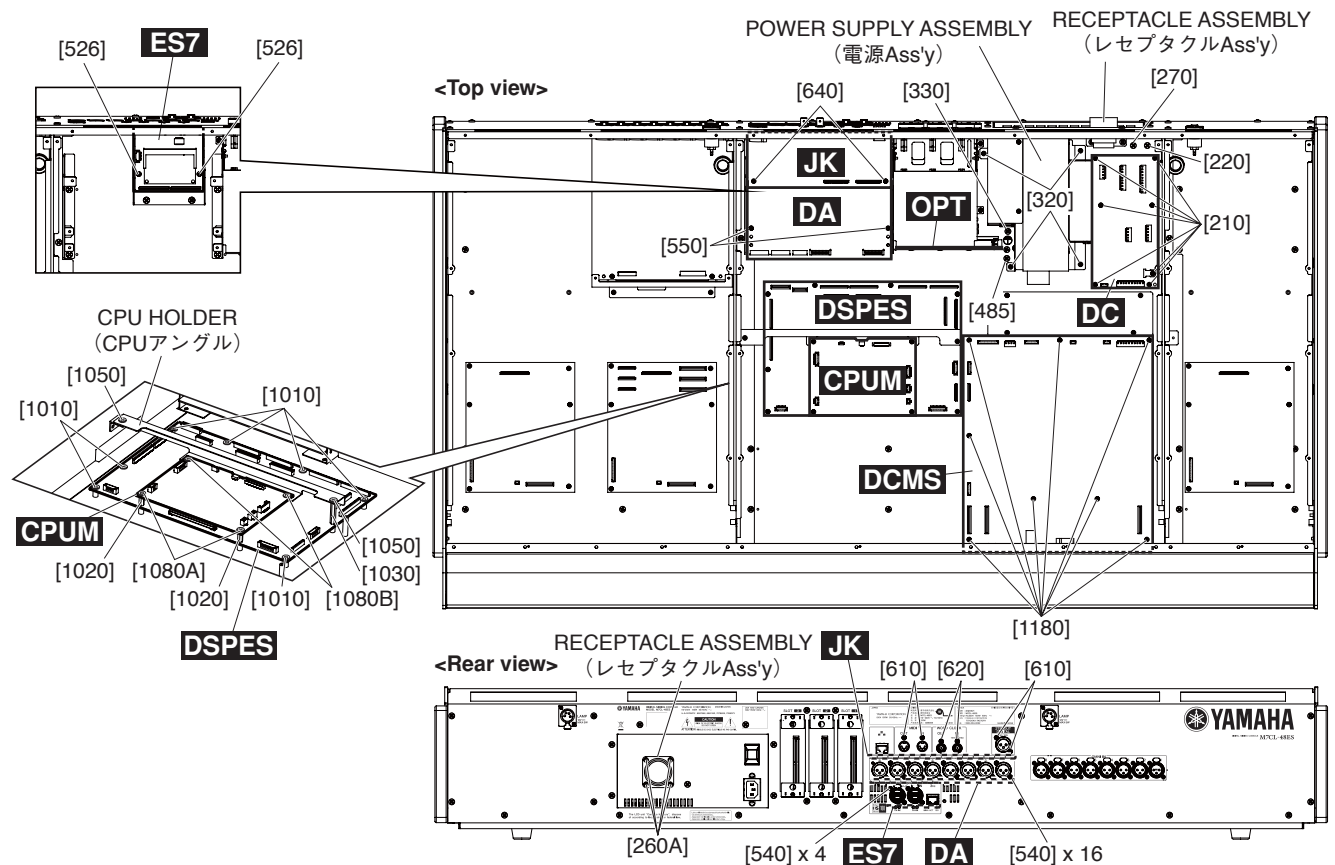
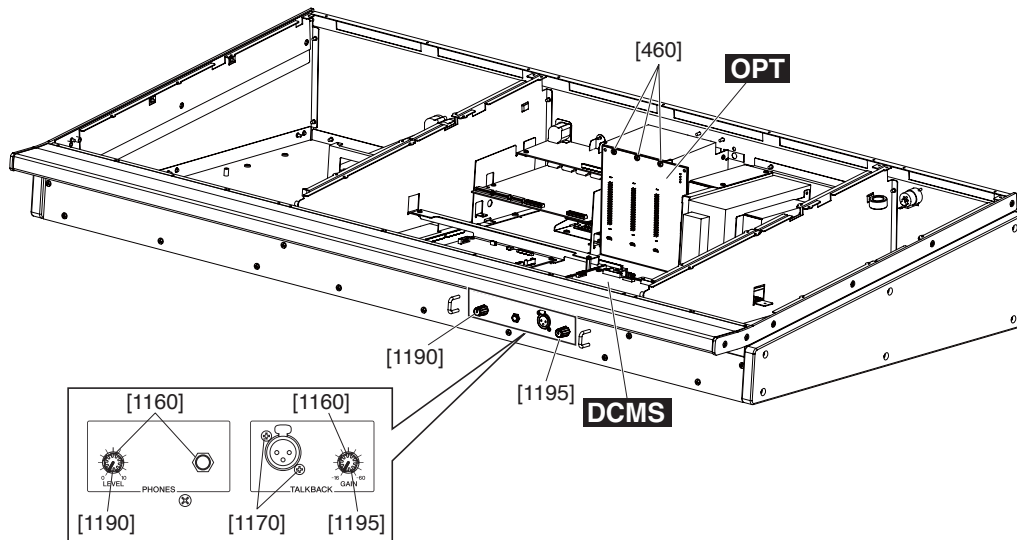

Fig. 4 (図 4)
Fig. 5 (図 5)
- A-1-3 Remove the two (2) screws marked [1080A], and two (2) screws marked [1080B]. The CPUM circuit board can then be removed. (Fig.4)
- A-1-3 [1080A] のネジ 2 本と [1080B] のネジ 2 本を外して、CPUM シートを外します。(図 4)
- A-3-3 Remove the two (2) screws marked [1050] and two (2) screws marked [1080A]. The CPUM circuit board and CPU holder can then be removed. (Fig.4)
- A-3-4 Remove the seven (7) screws marked [1010], the two (2) spacers marked [1020] and the spacer marked [1030]. The DSPES circuit board can then be removed. (Fig.4)
- A-3-3 [1050] のネジ 2 本と [1080A] のネジ 2 本を外して、CPUM シートと CPU アングルを外します。(図 4)
- A-3-4 [1010] のネジ 7 本と [1020] の六角スペーサ 2 個、[1030] の六角スペーサ 1 個を外して、DSPES シートを外します。(図 4)
- A-4-3 Remove the four (4) screws marked [610], two (2) screws marked [620], and two (2) screws marked [640]. The JK circuit board can then be removed. (Fig.4)
- A-4-3 [610] のネジ 4 本と [620] のネジ 2 本、[640] のネジ 2 本を外して、JK シートを外します。(図 4)
- A-5-4 Remove the sixteen (16) screws marked [540], and two (2) screws marked [550]. The DA circuit board can then be removed. (Fig.4)
- A-6-5 Remove the four (4) screws marked [524] and two (2) screws marked [526]. The ES7 circuit board can then be removed. (Fig. 4)
- A-5-4 [540] のネジ 16 本と [550] のネジ 2 本を外して、DA シートを外します。(図 4)
- A-6-5 [524] のネジ 4 本と [526] のネジ 2 本を外して、ES7 シートを外します。(図 4)
- A-7-3 Remove the three (3) screws marked [460], and the screw marked [485]. The OPT circuit board can then be removed. (Fig.4, 5)
- A-7-3 [460] のネジ 3 本と [485] のネジ 1 本を外して、OPT シートを外します。(図 4、図 5)
- A-8-3 Remove the seven (7) screws marked [210] and the screw marked [220]. The DC circuit board can then be removed. (Fig.4)
- A-9-3 Remove the four (4) screws marked [260A] and the screw marked [270]. The receptacle assembly can then be removed. (Fig.4)
- A-10-3 Remove the four (4) screws marked [320] and the screw marked [330]. The power supply assembly can then be removed. (Fig.4)
- A-12-3 Remove the large knob marked [1190] and the large knob marked [1195] from the front side. (Fig.5)
- A-12-3 フロント側より、[1190] のノブ(ダイ)1個と [1195] のノブ(ダイ) 1個を外します。(図5)
- A-12-4 [1160] の特殊六角ナット 3個と [1170] のネジ 2本、[1180] のネジ 8本を外して、DCMS シートを外します。(図4、図5)